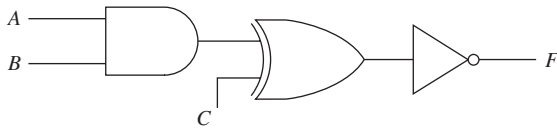

FIGURE P10.43 Circuit for Problem 10.43.
- 10.43** (A) Find the expression for the output of the logic circuits shown in Figure P10.43.